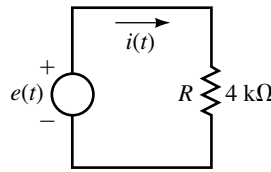

FIGURE 15–78
5. The source of Figure 15–78 has the waveform of Figure 15–76. Determine the current at $t = 0, 1, 2, 3, 4, 5, 6, 7,$ and 8 ms. Include sign.